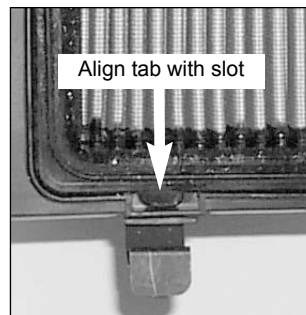

Fig. 2
6. Remove the stock air filter and install the K&N Air Filter into the airbox base making sure the place the tab that is on the filter into the slot on the airbox base. (Fig. 2)